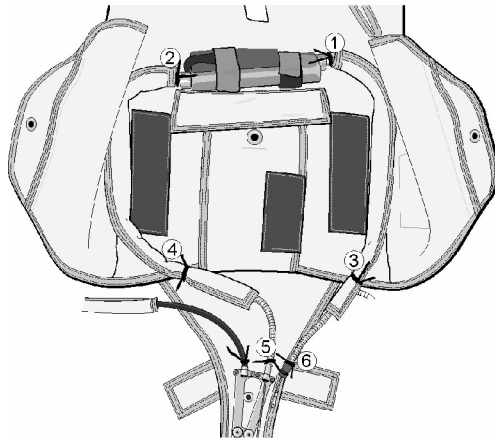

Figure 3. Lacing Tape Ties
- a. Cut and remove all lacing tape tackings (6 places) on AAD power and actuator cables and protective sleeves (Figure 3).